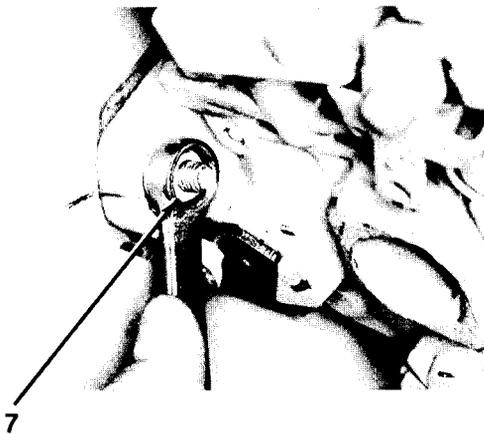

Figure 7-11
5. Install timed and locked injection pump (8) with drive gear key (9) in place.
6. Install three flange nuts (7, Figure 7-11) finger tight.